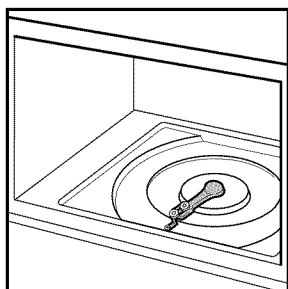

Figure 1
1. Place the guide tray on the oven cavity bottom. The rollers on the shaft should fit inside the guide tray bottom groove. (See figures 1, 2-1, and 2-2)